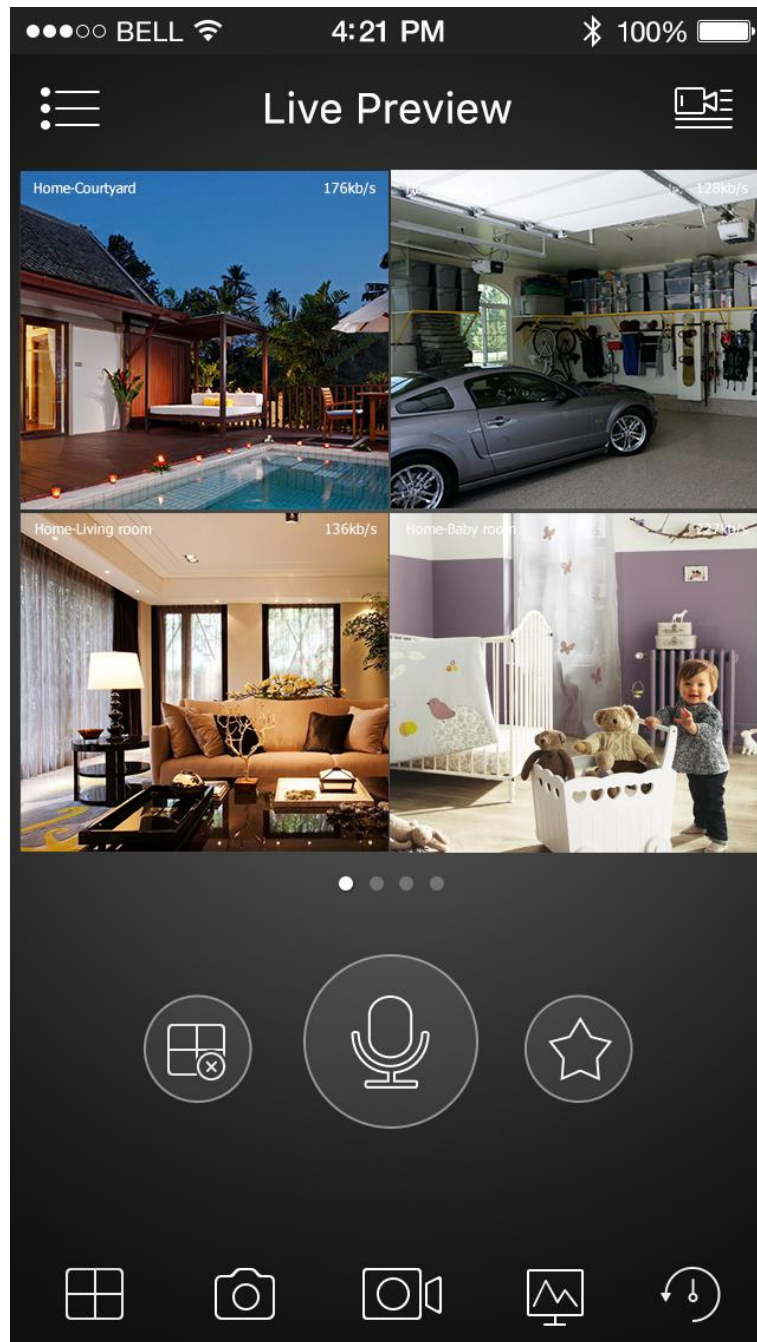

Figure 6-5
a) After scan, you can view the product SN. Click the Start live preview button, now you can see live view on the cell phone. See Figure 6-5.